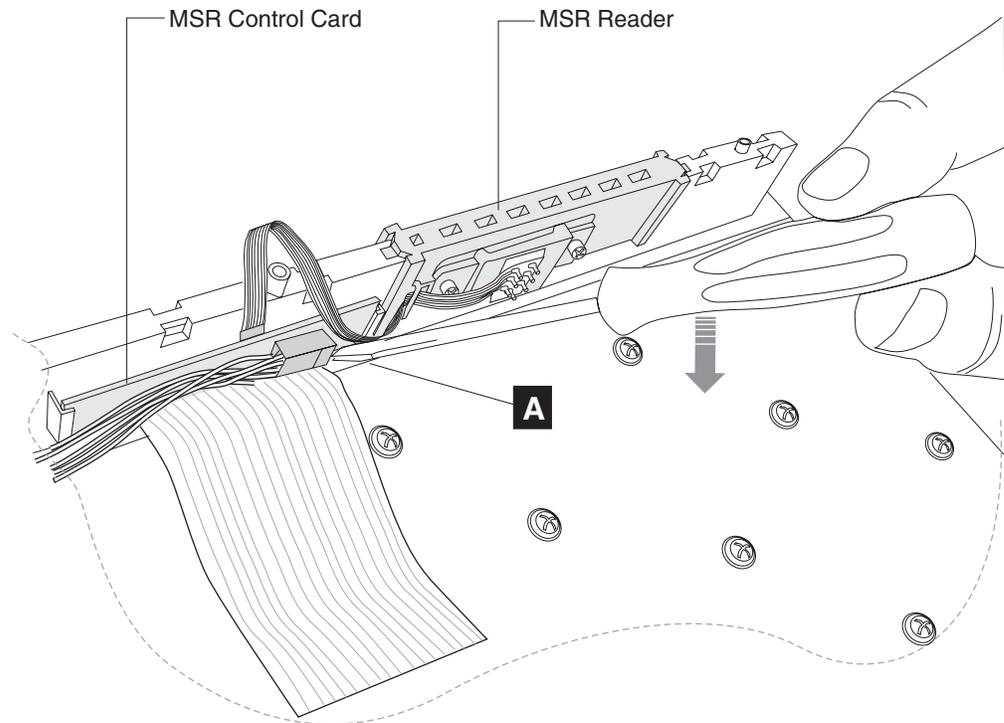

Figure 48. Removing the MSR control card
3. To remove the MSR control card, place a small slotted screwdriver between the metal keypad assembly and the bottom of the MSR control card **A**, and pry the control card up and off the two plastic guides as shown in Figure 48 on page 51.
1. Install the MSR control card onto the keypad assembly by inserting the control card into the two plastic guide, as shown in Figure 48.